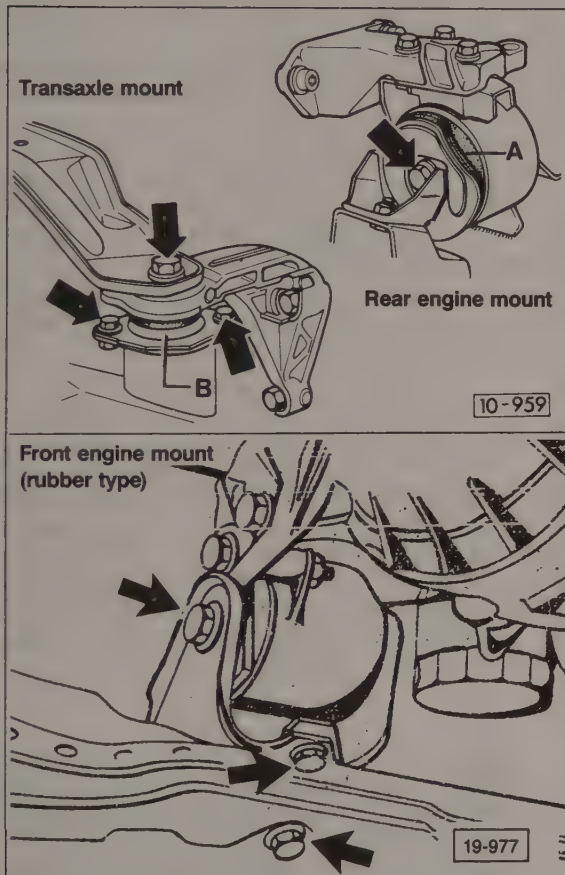

Fig. 5-14. Nuts and bolts (arrows) loosened for engine and transaxle alignment. Center bolts for engine mount **A** and transaxle mount **B** are loosened first.
1. Loosen the mounting bolts and nuts as indicated in Fig. 5-14. Loosen the center bolts for the engine mount **A** and the transaxle mount **B** first.
3. Tighten the mounting bolts and nuts. Tighten the center bolts, shown in Fig. 5-14 above, first. Torque all the bolts and nuts to the specifications given earlier in Fig. 5-13.